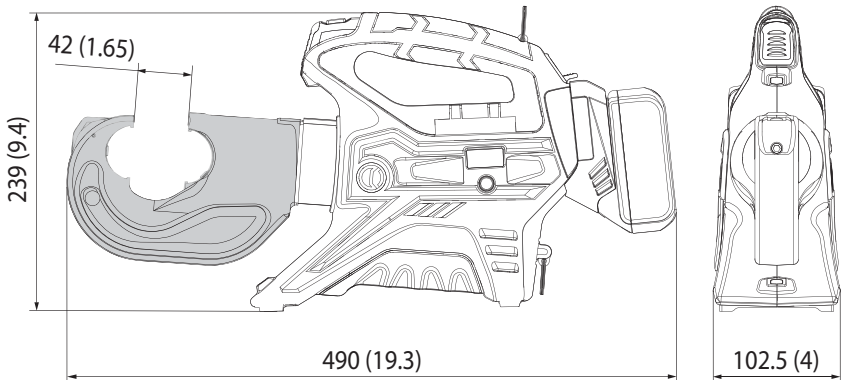

FIG. 7
**B1300LN-CA:** To access the mini-USB port (Ref. to fig. 6) and connect the USB cable to the computer it is necessary to remove CBA-MTMK battery adapter (12). Remove the screws (Ref. to fig. 7 and 7a) and slide the adapter out.